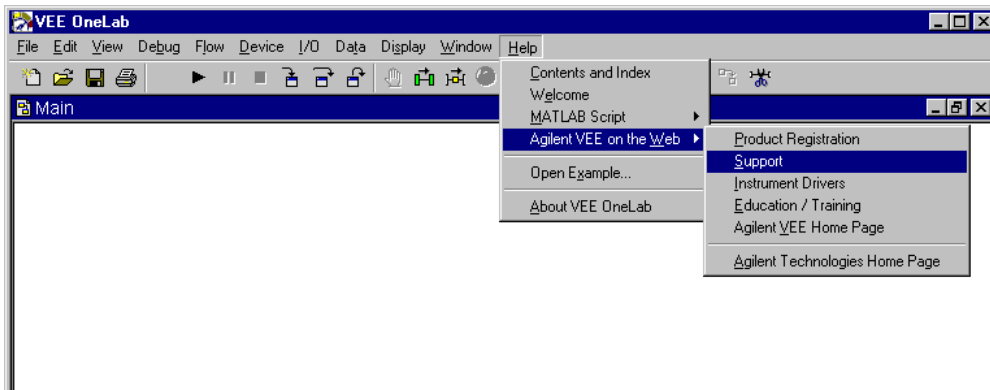

Figure I-4. Contacting Product Support in VEE Help Menu
- **For Current Support Information:** While connected to the network, in VEE, click Help ⇒ Agilent VEE on the Web ⇒ Support. Figure I-4 shows how to select support in VEE. Or, in the Web browser, select <http://www.agilent.com/find/vee> and click “Support”.